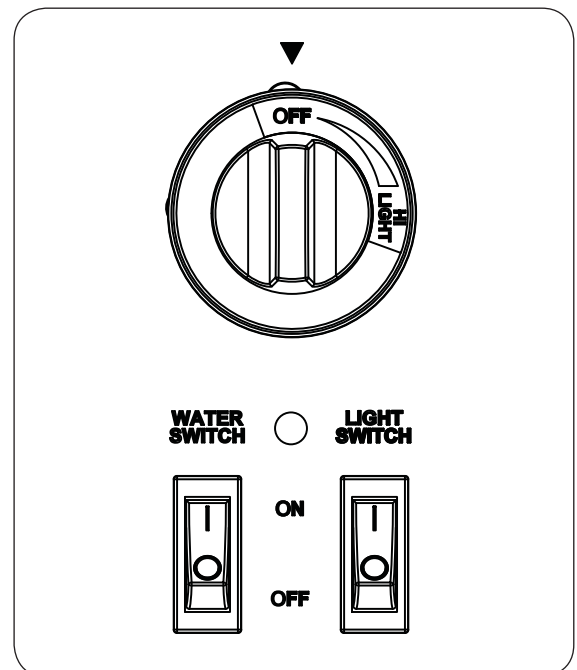

Fig. 35-3 Control box detail
This key (and the entire remote) only works when the light switch located on the unit's control box is in the ON (I) position. See Fig. 35-3.
1. Flip the light switch (door side of unit) to the ON (I) position. See Fig. 35-3.